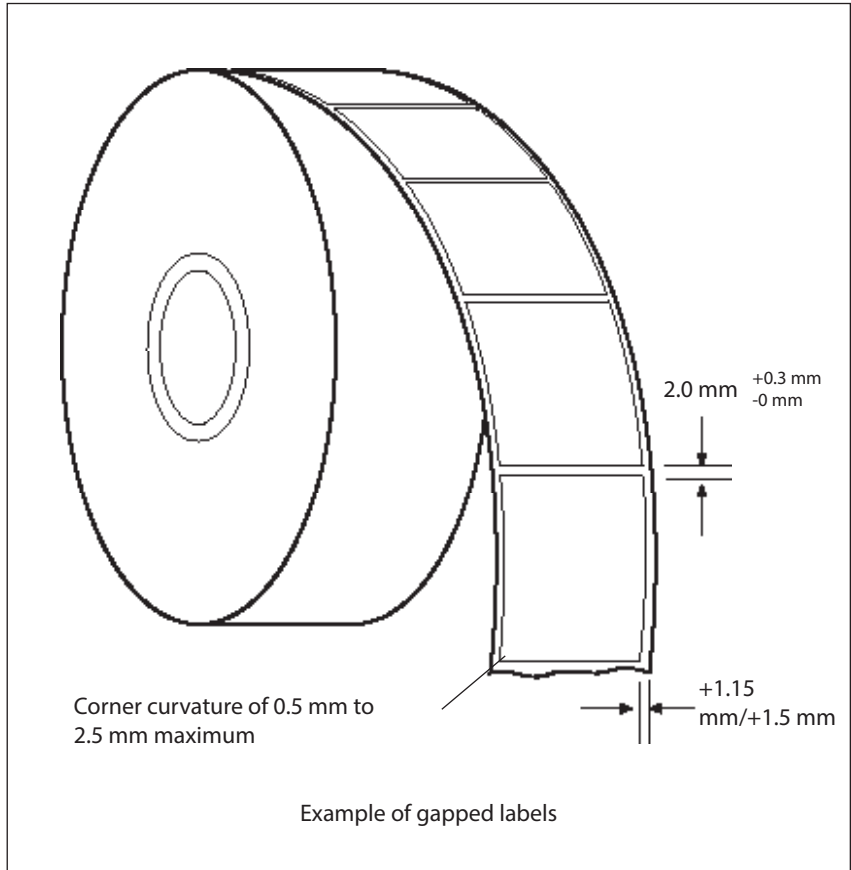

Figure 1a.
6. a) Labels are designed with radius corners with a minimum gap separation of 2 mm. (All dimensions assume radius corner designs with a corner curvature of 0.5 mm to 2.5 mm.) See figure 1a.
6. Labels to be printed are positioned to peel off label roll as shown in figures 1a, 1b, 4, 5 and 6.